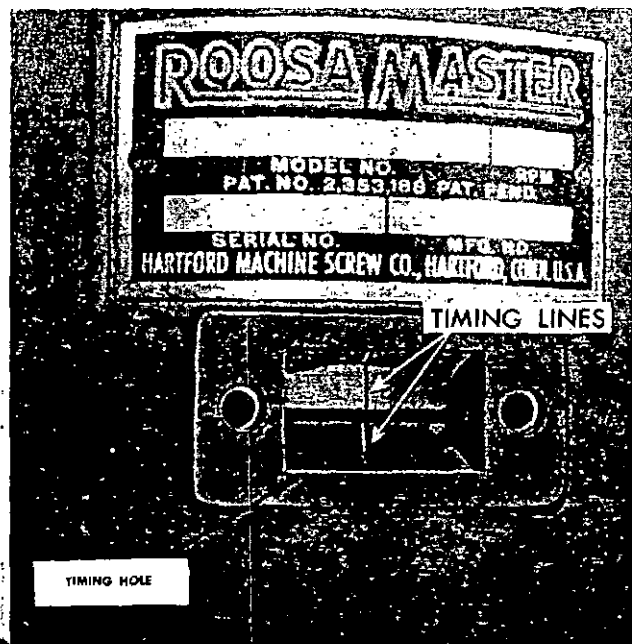

Figure 123—Timing marks aligned
4. Remove the timing line cover from the pump and turn the drive shaft so that the timing line on the governor weight retainer is in alignment with the timing line on the cam. (Fig. 123.)